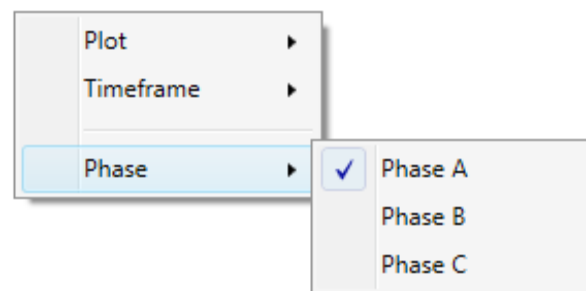

Figure 4-61: Phase shortcut menu
- The Phase option offers a choice of phases A, B or C as shown in Figure 4-61.